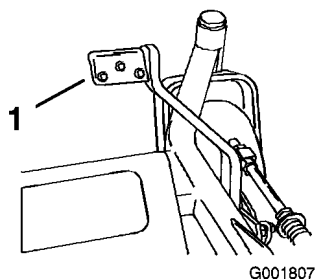

Figure 20
2. Press on the lift assist lever while pulling up on the height-of-cut lever (Figure 20).